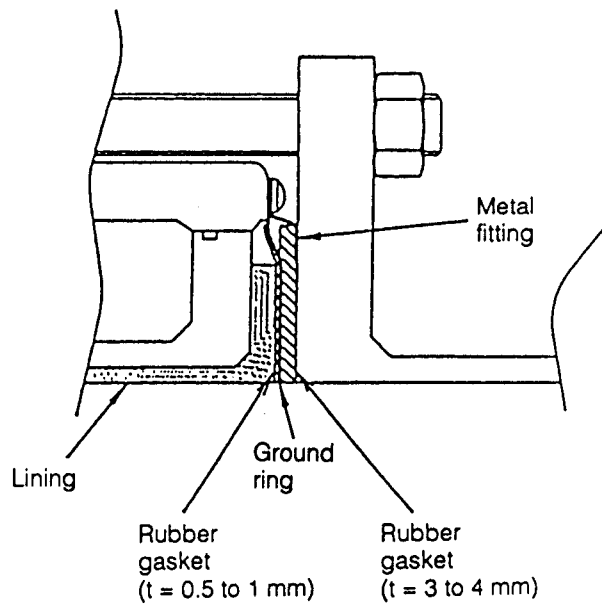

Figure 5-17. Installation onto PVC Piping using Rubber Gasket
- (2) When fastening a rubber gasket with lower torque than specified, two other rubber gaskets of 0.5 to 1.0 mm and 3 to 4 mm thickness respectively with inner and outer diameters as specified in Table 5.1 are necessary. Remove the supplied rubber gasket and fix the gasket of 0.5 to 1.0 mm thickness between the Teflon lining and ground ring. Also fix the gasket of 3 to 4 mm thickness onto the face of the ground ring (see Figure 5-17).